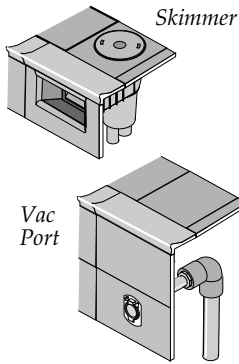

Figure 5
Step 5: Adjust valves for vacuuming (Figure 5)